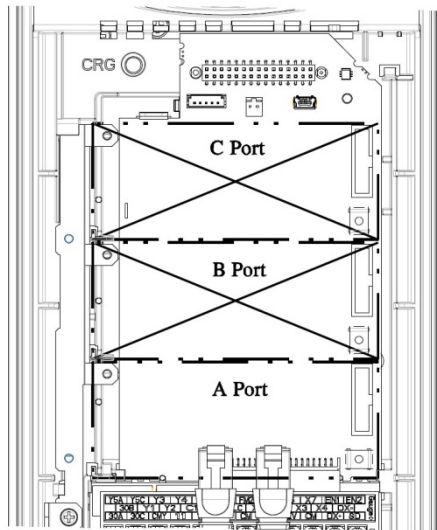

Figure 7: Option Port Locations
1. Remove the front cover from the inverter to expose the control printed circuit board (control PCB). As shown in Figure 7, there are three option connection ports (A-port, B-port and C-port). The OPC-ETH card is mechanically keyed for, and can only be installed into, the A-port (bottom-most) position.